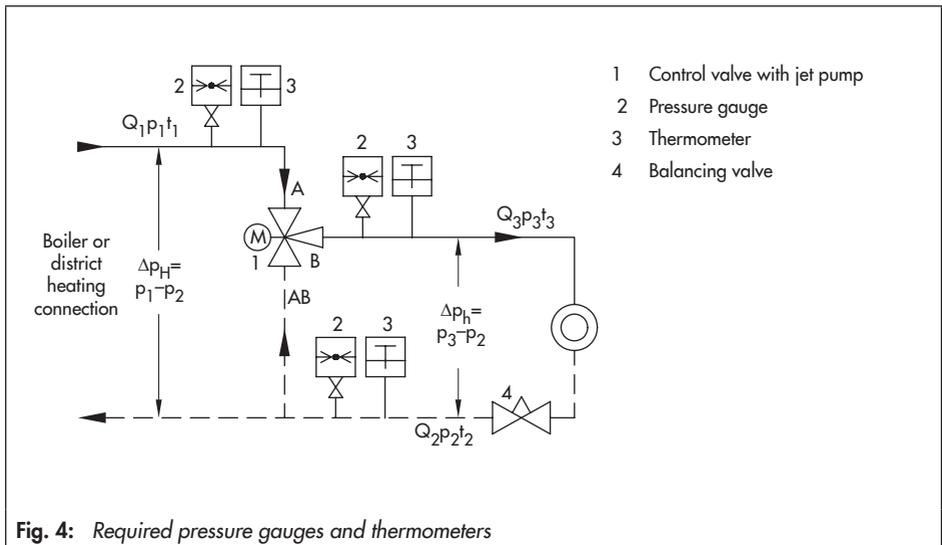

Fig. 4: Required pressure gauges and thermometers
- Keep the mixing line AB (Fig. 4) as short as possible. Do not install check valves or shut-off valves in this line.
- Refer to the installation schematic drawing (Fig. 4) for the arrange-
- *The flow direction of ports A, B and AB must match those specified in the plant schematics (Fig. 4).*